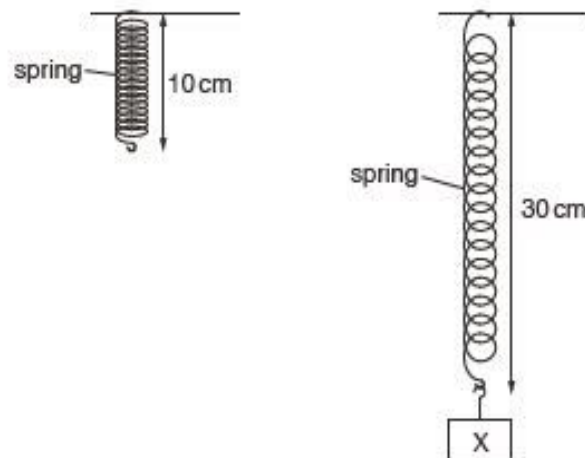
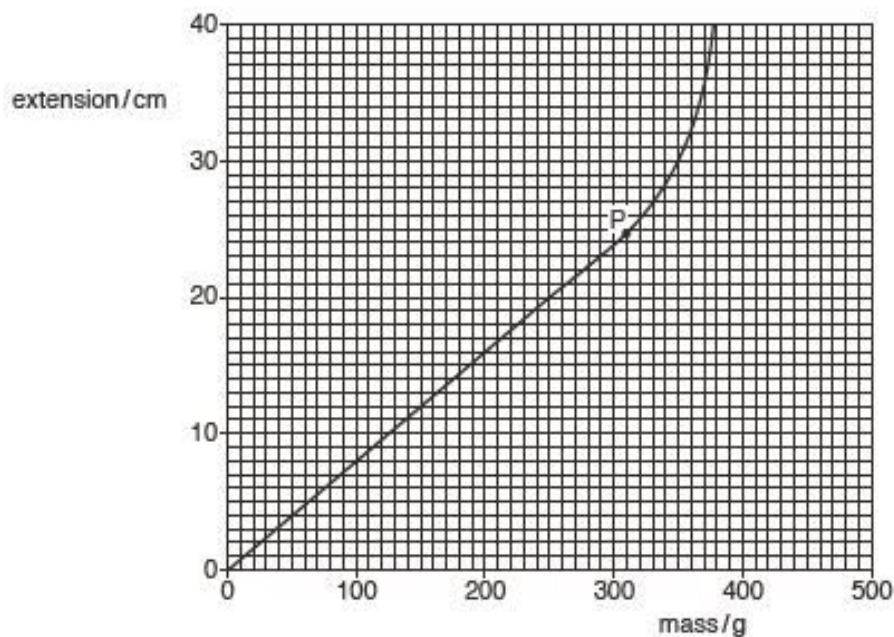
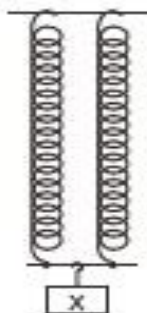

Fig. 2.1 (not to scale)
Fig. 2.2
Fig. 2.3 (not to scale)
A student hangs various masses from the end of a spring and determines the extension produced. Fig. 2.1 shows the spring hanging vertically on its own and with an unknown mass X at one end.
- (a) The student plots a graph of the extension of the spring against the mass hanging on the spring. Fig. 2.2 shows the student's graph.
- (ii) Using Fig. 2.1 and Fig. 2.2, determine the mass X.
- b) An identical spring is used with the original spring, as shown in Fig. 2.3.
State and explain how the extension in Fig. 2.3 compares with the extension in Fig. 2.1.